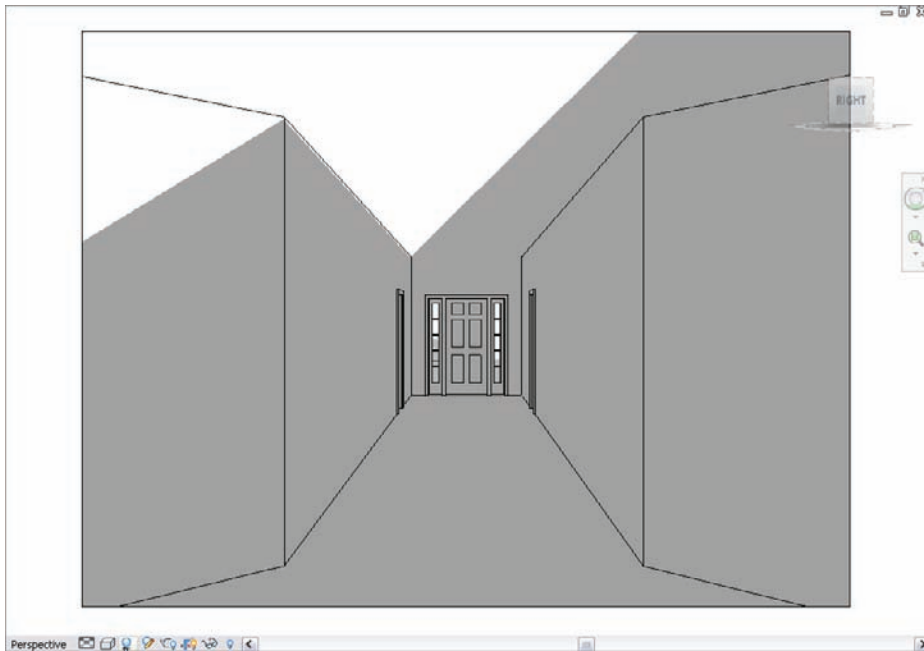

FIGURE 3.71 The perspective view down the east wing corridor
4. The second point you pick will be how far the camera “reaches” into the building. Pick a point past the corridor doors, as shown in Figure 3.71.
7. The next button to the right is the Shadows button. For a perspective view, turning the shadows on is okay for a relatively small view. In this example, go ahead and turn them on (see Figure 3.71).